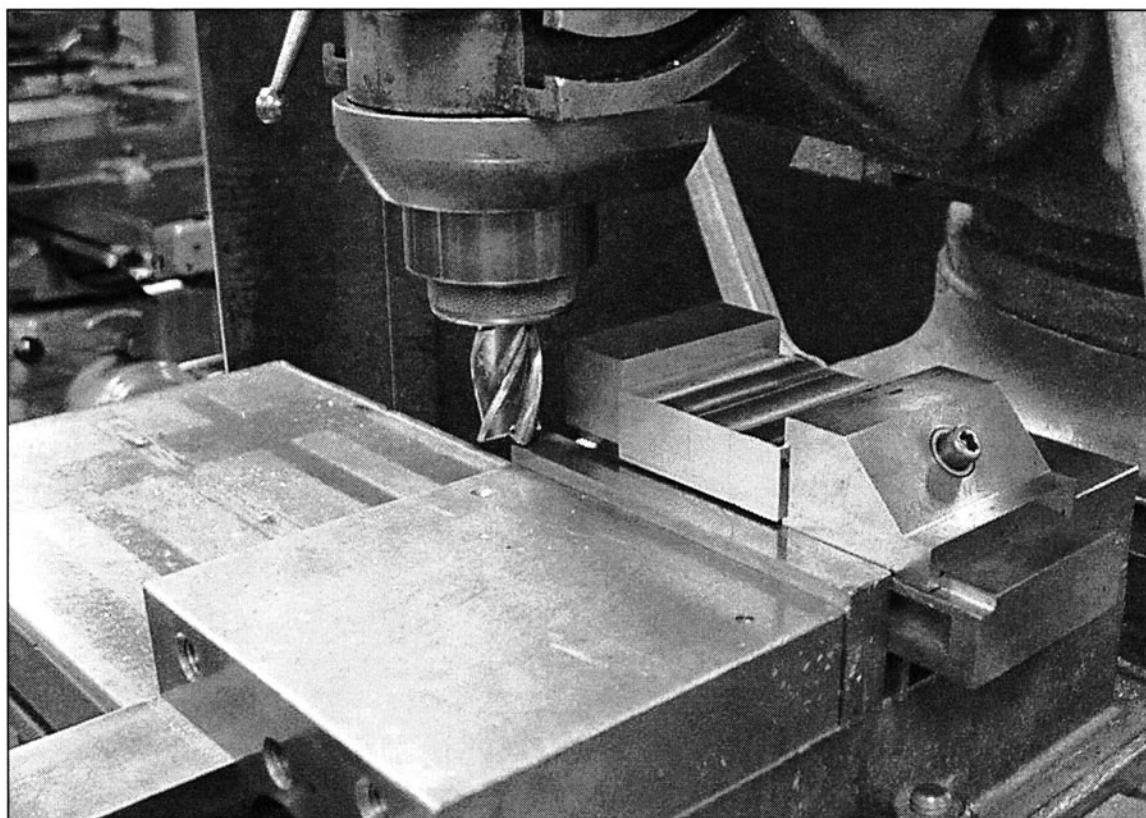

FIGURE 3-2 A grinding vise can be mounted in a milling machine vise to quickly rotate parts ninety degrees.
5. *Auto feed parts to length in a mill using a grinding vise. (See Fig. 3-2)*